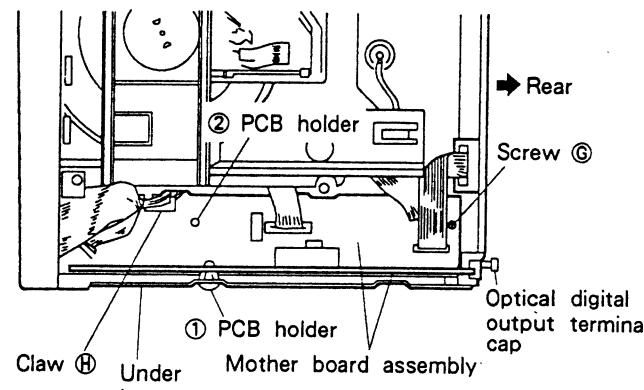

Fig. 2 – 3.
- ③ Remove screw ⑪ holding the mother board assembly.
- ④ Remove the bundle of wires of the mother board assembly from claw ⑫ of the loading base.
- ⑤ After removing the board from the PCB holder in the order of ① and ② shown in Fig. 2 – 3, pull it out.